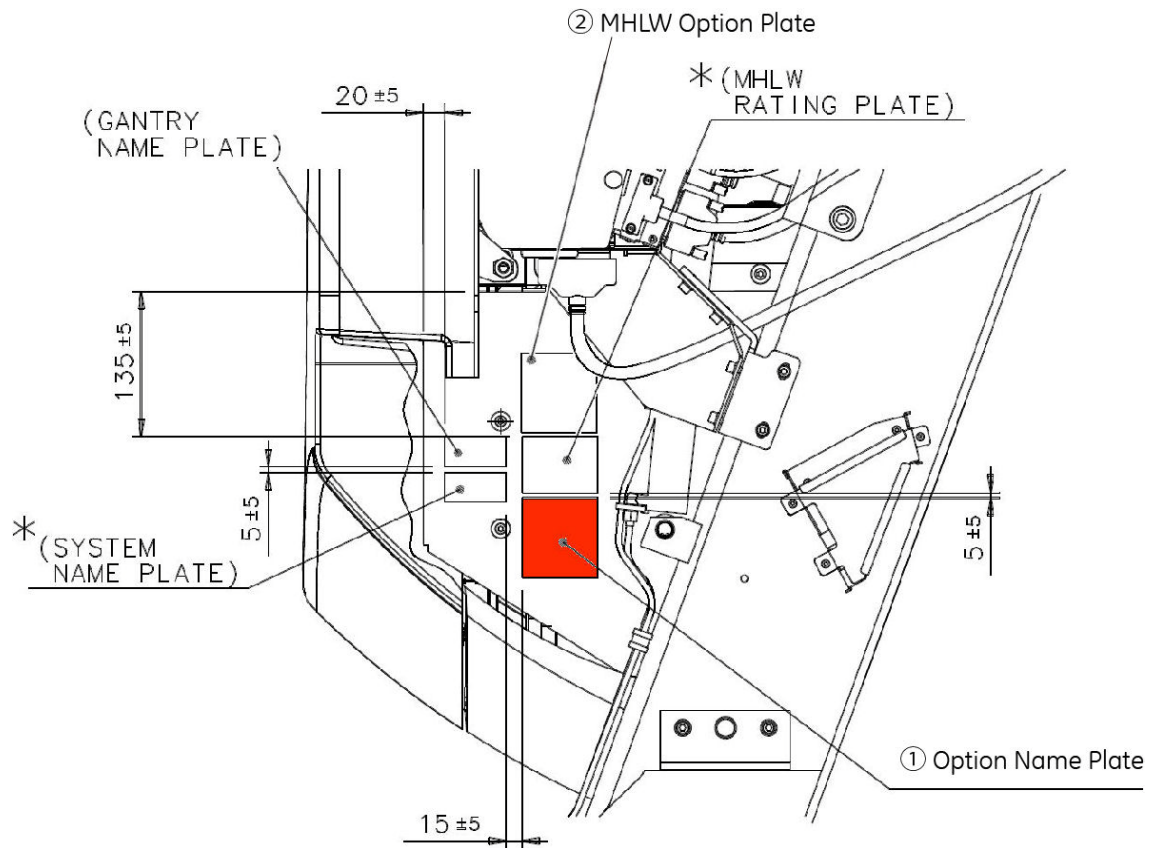

Figure 3-1 Location of Option Name Plate
- 1.) Remove the 75kVA Power Option Name Plate ① and MHLW Option Plate ② on the left side of Gantry. Refer to Figure 3-1.
- 1.) Attach the MHLW option plate near the rating plate on the right side of Gantry. Refer to Figure 3-1 ②.